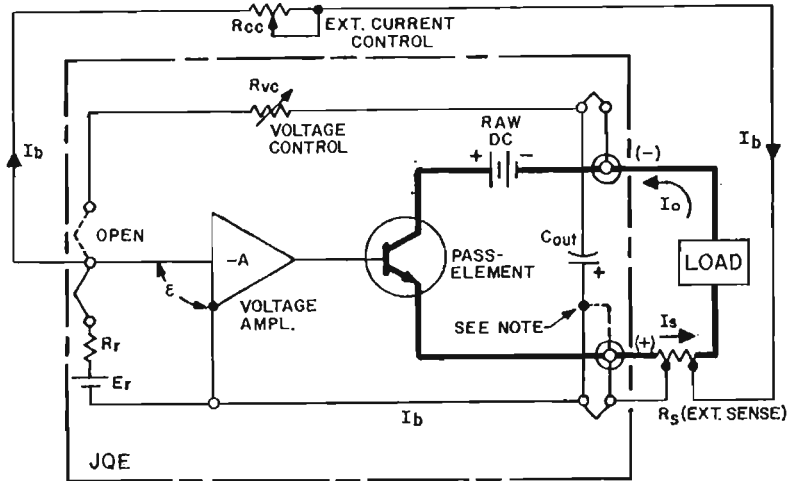
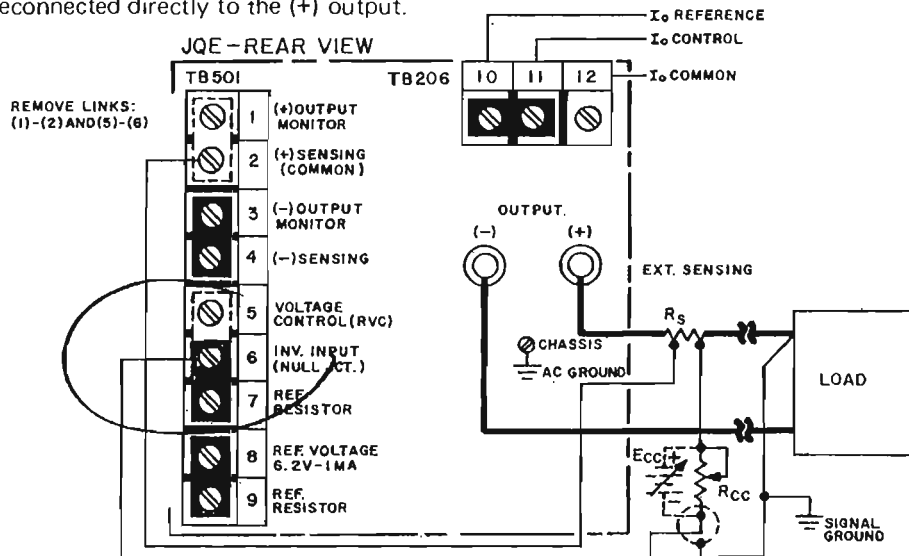

FIG. 3-14 JQE AS A CURRENT STABILIZER USING THE VOLTAGE CHANNEL WITH EXTERNAL SENSING AND CONTROL (EQUIVALENT CIRCUIT).
FIG. 3-15 CONNECTIONS FOR CURRENT STABILIZATION (EXTERNAL SENSING AND CONTROL).
3-59 The values for  $R_s$  and  $R_{CC}$  are calculated as shown in the following example using the equivalent diagram (FIG. 3-14).
3-60 The output current of the JQE may be controlled *either* by the current control resistor ( $R_{CC}$ ), *or*, (as indicated with dashed lines in FIG. 3-15) with an adjustable d-c voltage source ( $E_{CC}$ ). The control source must be 0 to 0.5 volt, (1 volt for JQE 6-90). If a control voltage ( $E_{CC}$ ) is used, the internal reference voltage ( $E_r$ ) must be disconnected by opening the jumper between terminals (8) and (9).
NOTE:  $R_s$  (FIG. 3-15) should be located close to the (+) output terminal of the JQE and load wires should be short. Excessive load wire impedance may lead to a dynamically unstable output. If long load wires cannot be avoided, the (+) terminal of the output capacitor ( $C_o$  in FIG. 3-14) must be removed from the (+) sensing terminal and reconnected directly to the (+) output.